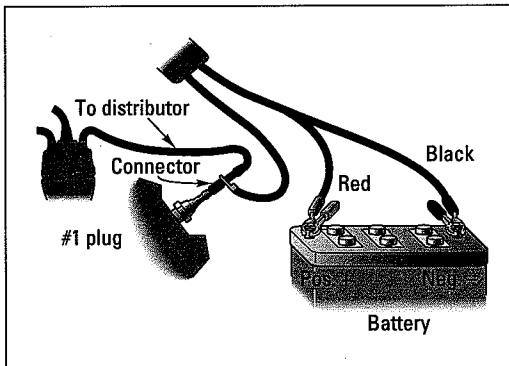

Figure 12-45:
Most lights have three clips on them. If you have no instructions, the ones in this book will work for most timing lights with three clips (see Figure 12-45).
4. Clamp the big *red* clip to the *positive* terminal of your car battery, as shown in Figure 12-45.
- You can remove the boot from the spark plug, put the clip on the terminal end of the plug that sticks out of the engine, and replace the boot so that it fits snugly and allows the current to pass through from the wire to the plug (refer to Figure 12-45).